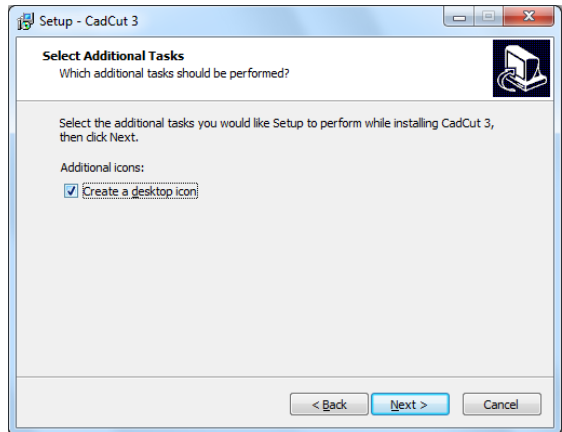

Fig. 12 – selecting additional tasks
- In the following window you can select additional tasks for the installer, f. i. creating a desktop shortcut icon for the program (Fig. 12).